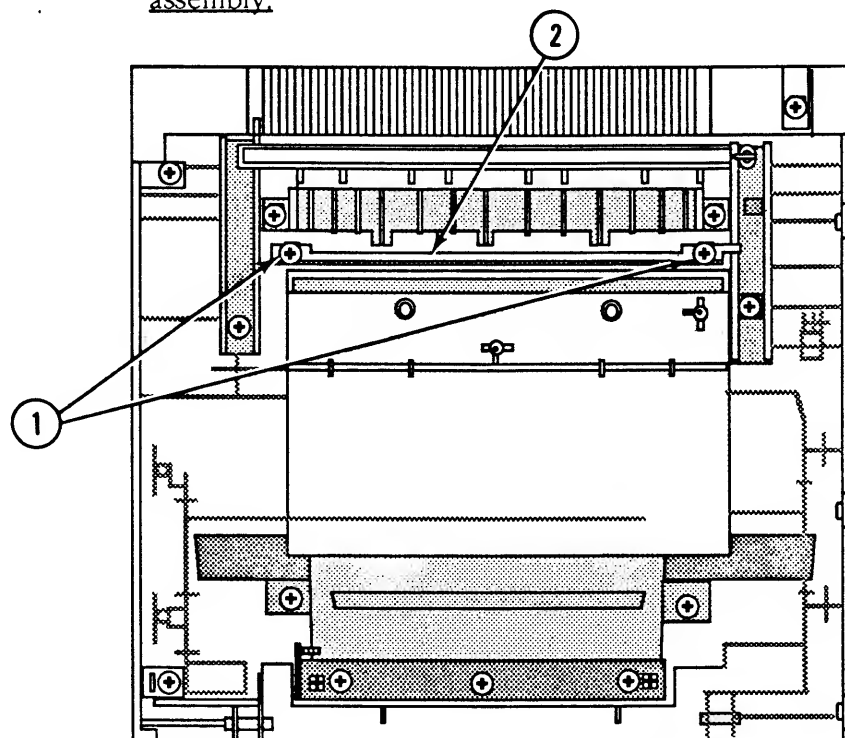

FIGURE 78
2. Remove the two Phillips screws (Figure 78, #1) that secure the static charge eliminator (Figure 78, #2) to the top cover. Remove the static charge eliminator.